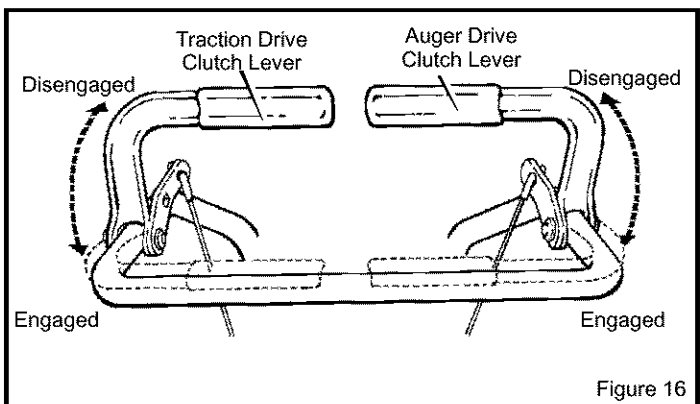

Figure 16
1. Start the engine as described in section "To Start Engine" (see Figure 16).
5. Engage auger drive clutch lever (right hand—Figure 16).
6. Engage traction drive clutch lever (left hand—Figure 16). As the snow blower starts to move, maintain a firm hold on the handles and guide the snow blower along the cutting path. Do not attempt to push the snow blower.
7. To stop forward motion, release traction drive clutch lever (left hand – Figure 16).
- To stop auger, release auger drive clutch lever (right hand – Figure 16).